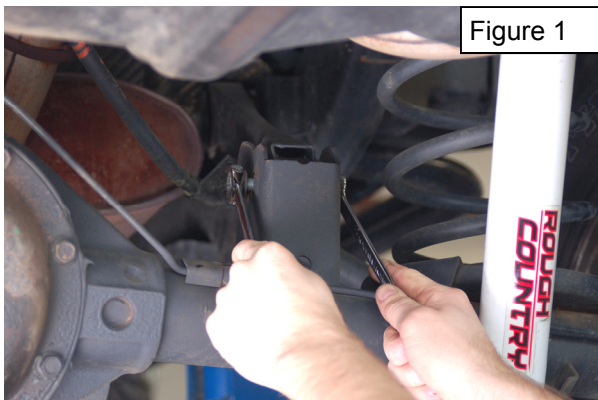

Figure 1
1. Check the front wheels and place jack stands on the frame just forward of the rear lower control arms. Using a 15mm wrench, loosen the stop upper control arm bolt on the axle. **See Figure 1.**